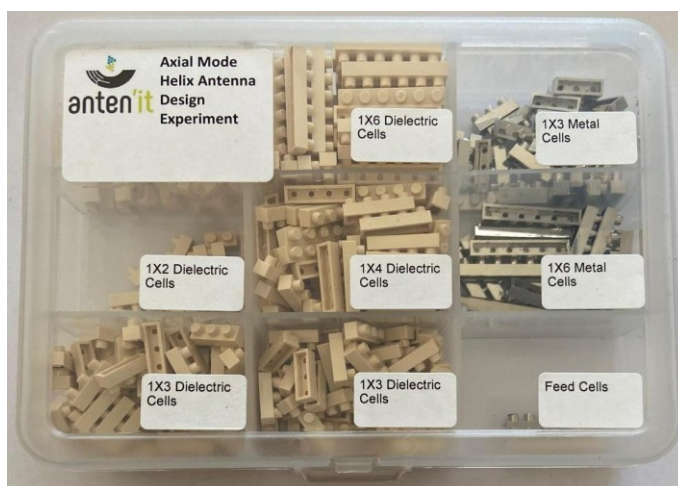
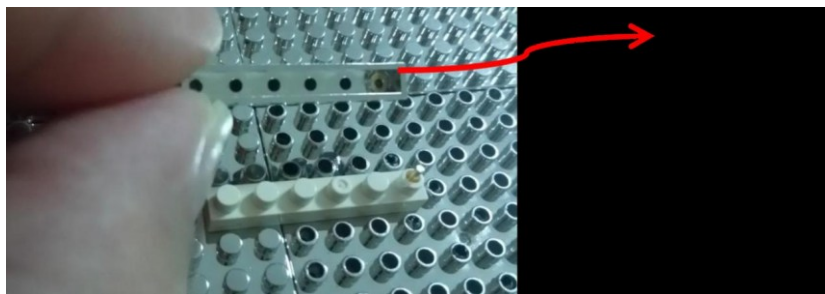

Figure 3 Axial Mode Helix Antenna Experiment Box
Figure 10 Feed metal cell special insert and feed dielectric cell
The box in Figure 3 is the axial mode helix antenna (AMHA) kit. We will build two axial mode helix antennas with different number of turns in this experiment. The effect of the number of turns over the gain and axial ratio of the antenna will be experimented. There are dielectric and metal cells with different dimensions. The feed cells include only one feed metal cell and one dielectric cell which are shown in Figure 10.
12. Locate the 1X6 feed dielectric cell above the ground plane. The hole must be above the pin of the connector. See the feed metal cell in Figure 10. The feed metal cell has a connection insert in it. This connection insert needs to be located above the pin.